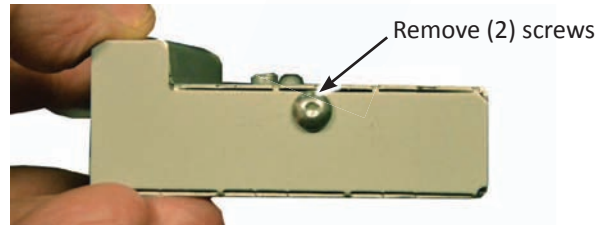

Figure 3
5. Remove (2) T10 Torx screws, one (shown in figure 3) and one on the other side of the box.